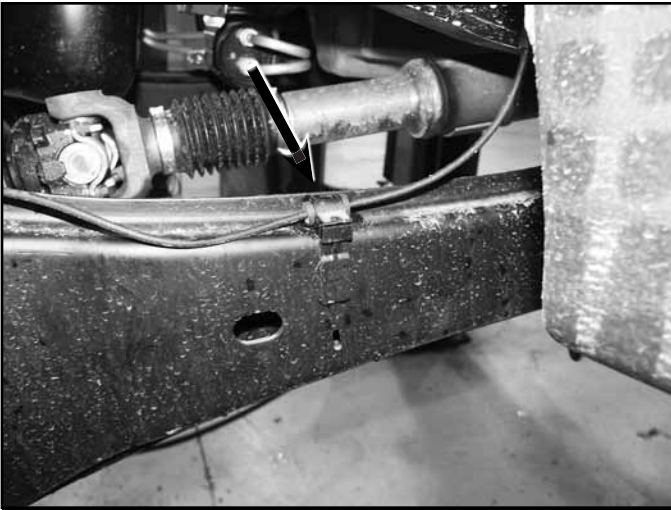
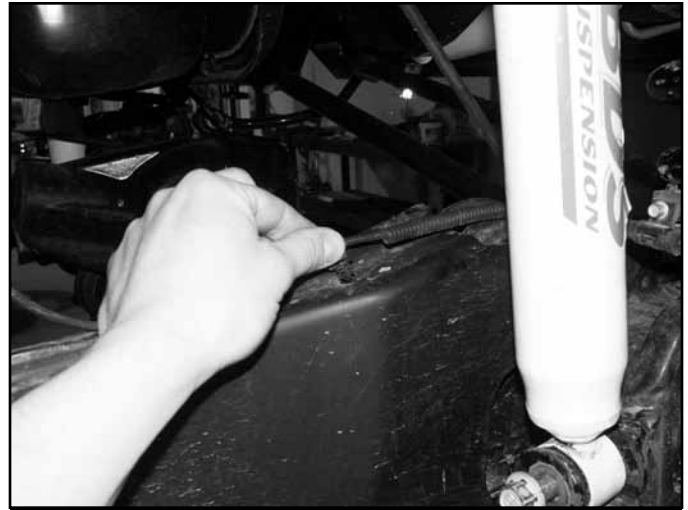

Fig. 5
Fig. 6
17. Remove the ABS line from the retaining tab on the radius arm (Fig 5). Carefully pull the plastic retaining clip free from the radius arm (Fig 6).